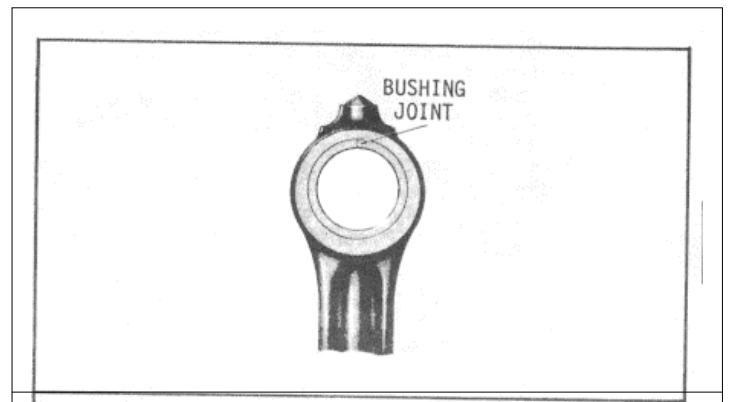

Fig. 8
- (2) Start a new bushing straight into the bore of the connecting rod, with the bushing joint at the top of the rod (Fig.8).
- (3) Insert installer J 1513-6 in the bushing, then insert handle J 1513-2 in the installer and drive the bushing in until the flange of the installer bottoms on the connecting rod.